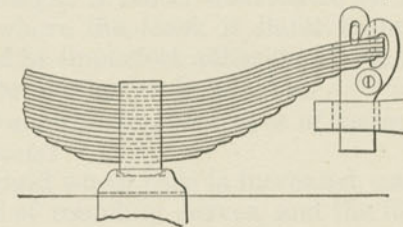

Fig. 232. Spring Hanger.
*A. By the arrangement shown in Fig. 232, as on the L. N. A. and C. R. R.*